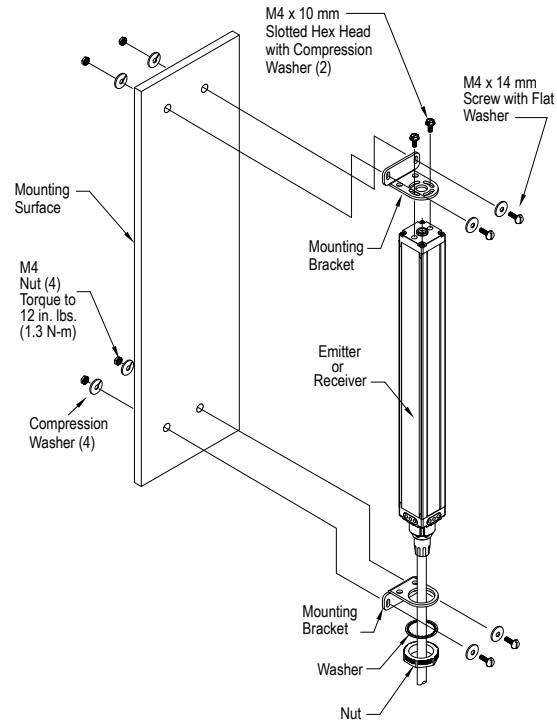

Figure 3. MINI-ARRAY emitter and receiver mounting hardware
1. Mount the emitter and receiver in their mounting brackets (see Figure 3 (p. 8)).